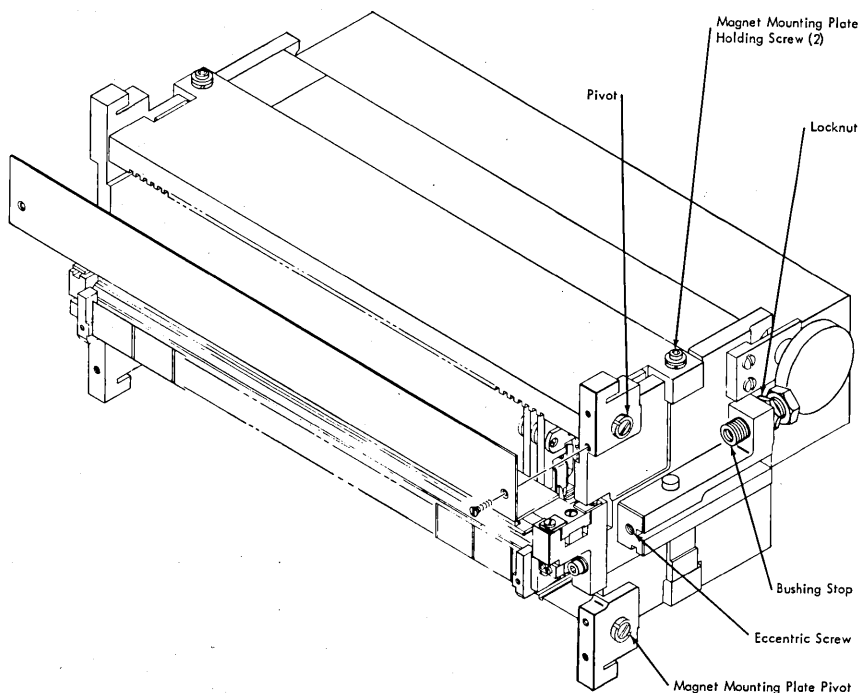

Figure 4-24. Hammer Unit Assembly
2. Rotate the eccentric screw (refer to Figure 4-24), one on each side of the hammer unit, to remove the vertical clearance between the hammer unit and translating frame.
With the front cover open, the eccentric screws (see Figure 4-24) that position the hammer unit from being tilted upward, must be loosened to prevent damage to either or both the hammer unit and translator frame. This eliminates binds when the hammer unit is moved on to the service rails.